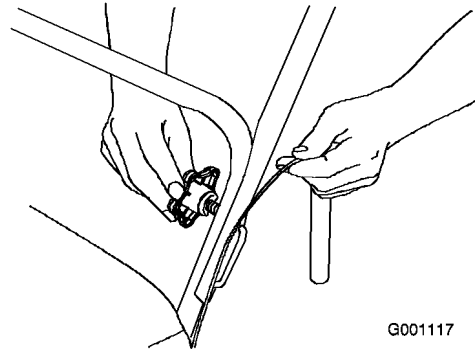

Figure 6
- Fully insert the handle bolts (Figure 6).
Important: Ensure that you do not pinch the control cable (Figure 6).